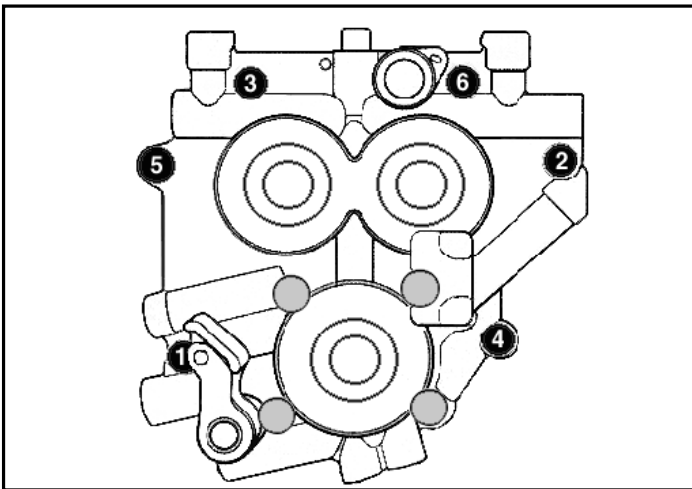

Figure 2
13. Following sequence shown in **Figure 2**, alternately loosen and remove cam support plate bolts.
21. Loosely install support plate screws with a drop of blue thread locker. Alternately tighten screws to 95 in-lbs. torque following sequence shown. See **Figure 2 on Page 4**.
Support plate screws that pass through alignment dowels (See positions 1 & 2 in Figure 2) can be easily stripped. Do not exceed torque recommendation.